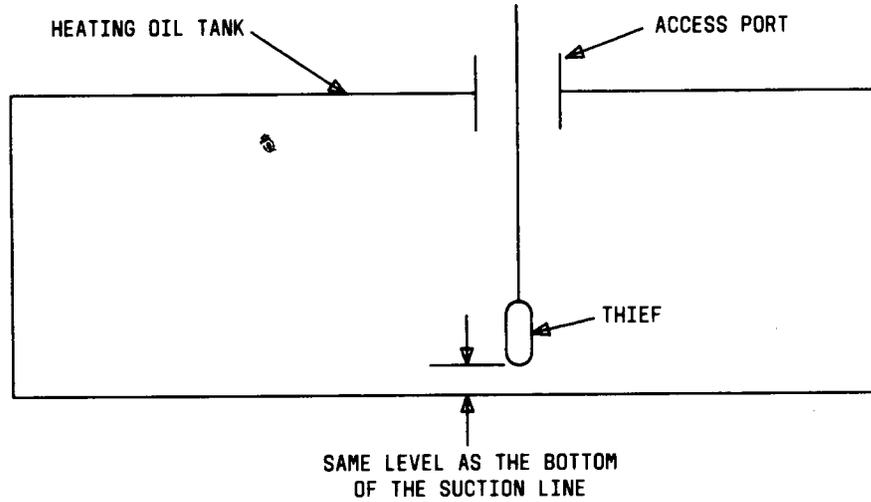

Fig. 2—Typical Sample Identification Label
- (p) Fill in mailing label on sample container, furnishing as much of the information as possible, as shown in Fig. 2.
- (c) Remove thief and transfer contents to the sample container. Close container immediately, and fill in sample identification label (Fig. 2) and forward to the testing laboratory.